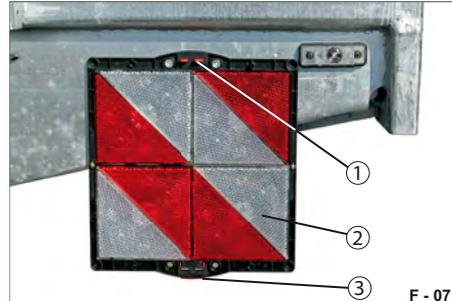

Fig. 96 Parking warning panel, plastic
- ▶ Press in the pressure protection (Fig. 96/3).
- ▶ Fold down the lower halves (Fig. 96/2) of the warning panels.
The pressure protection (Fig. 96/3) automatically engages in the locking mechanism (Fig. 96/1).